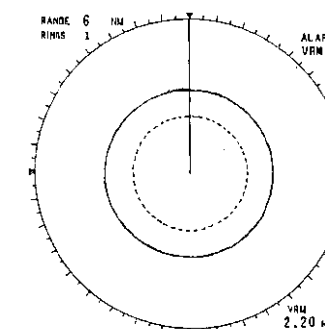
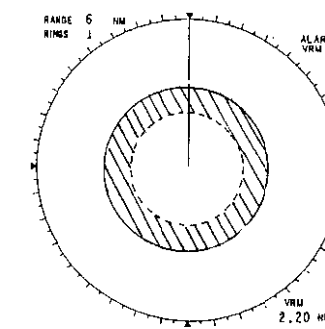

Fig.1-13
Fig.1-14
4. Press / until the VRM stops at 2.20nm and press the SET/RESET touchpad. A "doughnut ring" marks the inner and outer limits of the alarm. See Fig.1-13 and Fig.1-14.